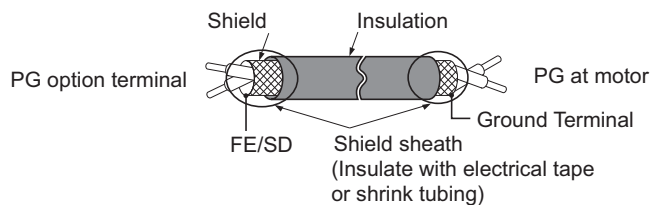
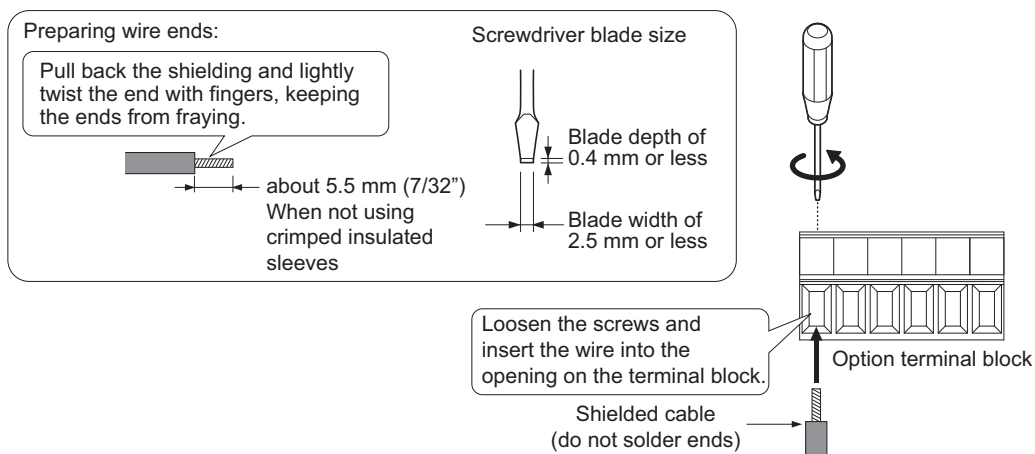

Figure 8.6 Preparing Ends of Shielded Cable
Figure 8.7 Preparing and Connecting Cable Wiring
2. There are two screw holes on the drive for use as ground terminals (I). When connecting three options, two ground wires will need to share the same drive ground terminal.
4. Prepare and connect the wire ends as shown in Figure 8.6 and Figure 8.7. Wire Gauges and Tightening Torques on page 348 to confirm that the proper tightening torque is applied to each terminal. Take particular precaution to ensure that each wire is properly connected and wire insulation is not accidentally pinched into electrical terminals.